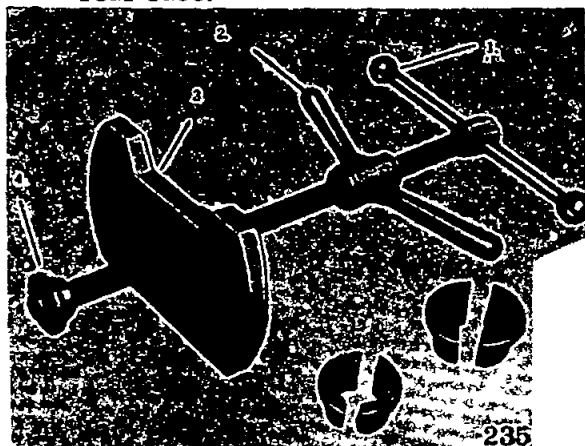

Fig. 7
13) To pull out the front bearing outer race from the gear carrier, set the tool body (3) as illustrated in Fig. 7 pull it out with adapter (B) in the way of rear race.